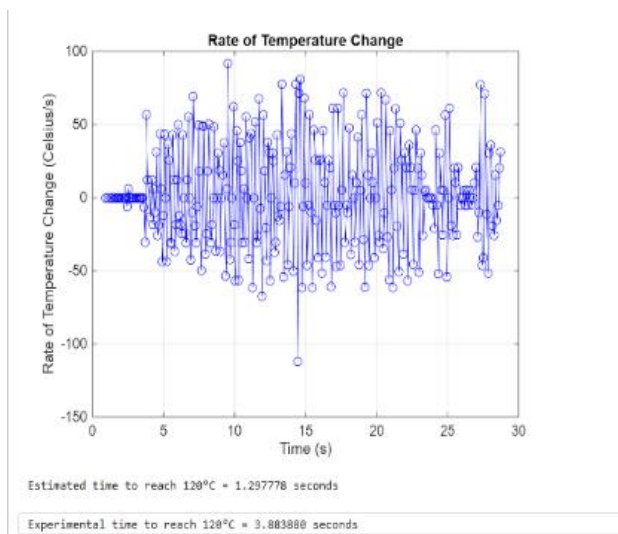

Figure 2 - Temperature Rate of Change
- Figure 2 represents the slope of the temperature readings with respect to time, showing how rapidly the temperature is increasing or decreasing.
Figure 2 revealed a high degree of variability in the slope at which the temperature increased. This variation is due